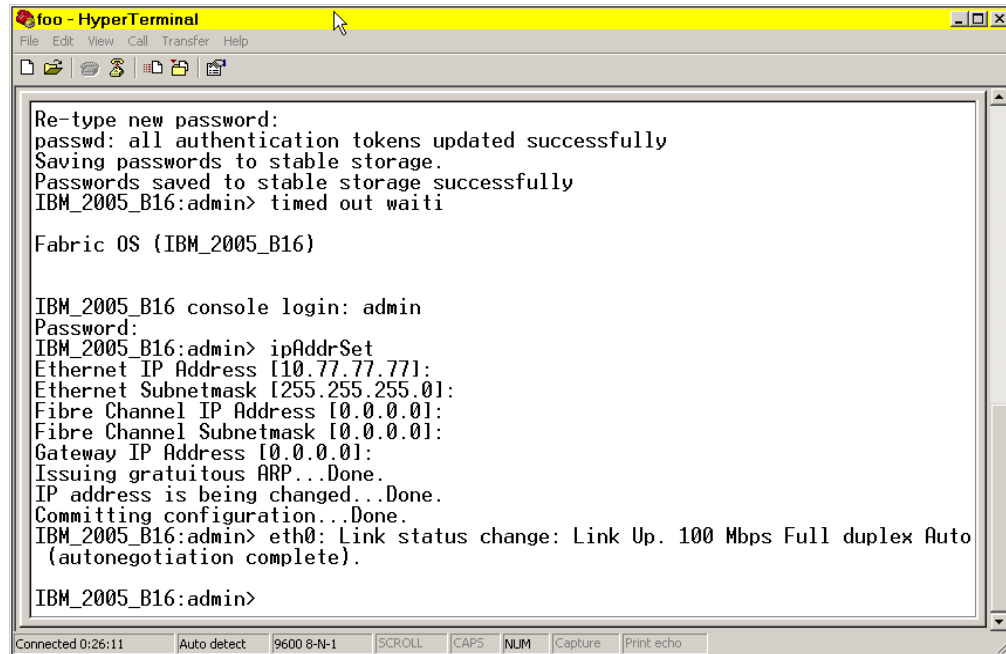

Figure 13 Default switch network values
10. Complete the fields as necessary for your particular IP network. Your screen will look similar to Figure 13. Do not set the Fibre Channel IP Address and Subnetmask.